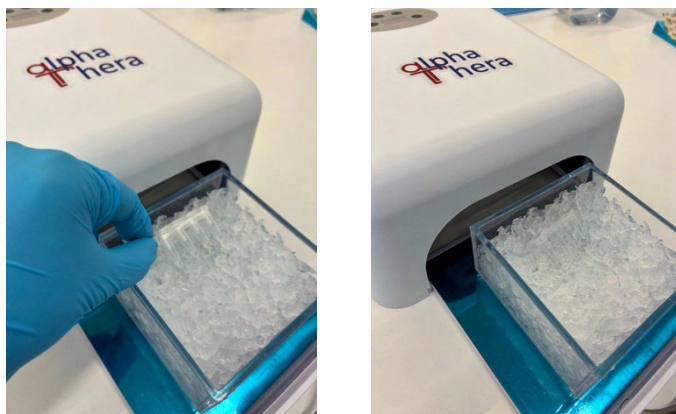

Figure 5. Positioning of the tubes under the UV light source during conjugation.
- E.** ☐ Place tubes on their side on ice under a long-wavelength UV light source (~365 nm) as shown in Figure 5 below.
During STEP 7, SDS-PAGE gel is used to confirm successful conjugation of the antibody to the oYo-Link® barcodes. Successful conjugation is indicated by a band shift to a higher molecular weight compared with the unconjugated antibody control as shown in Figure 5 below. No reducing agents are used in this protocol.